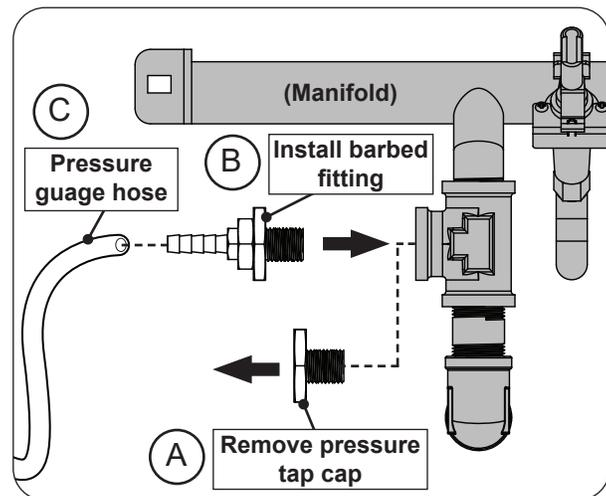

Fig. 25-1 Perform outlet pressure test
2. Use a $\frac{3}{16}$ " hex key to remove the pressure tap cap (see Fig. 25-1, A).
3. Install the included barbed fitting into the pressure tap opening where the cap was removed (see Fig. 25-1, B).
4. Install a pressure gauge hose to the barbed fitting (pressure gauge and hose not included). See Fig. 25-1, C.